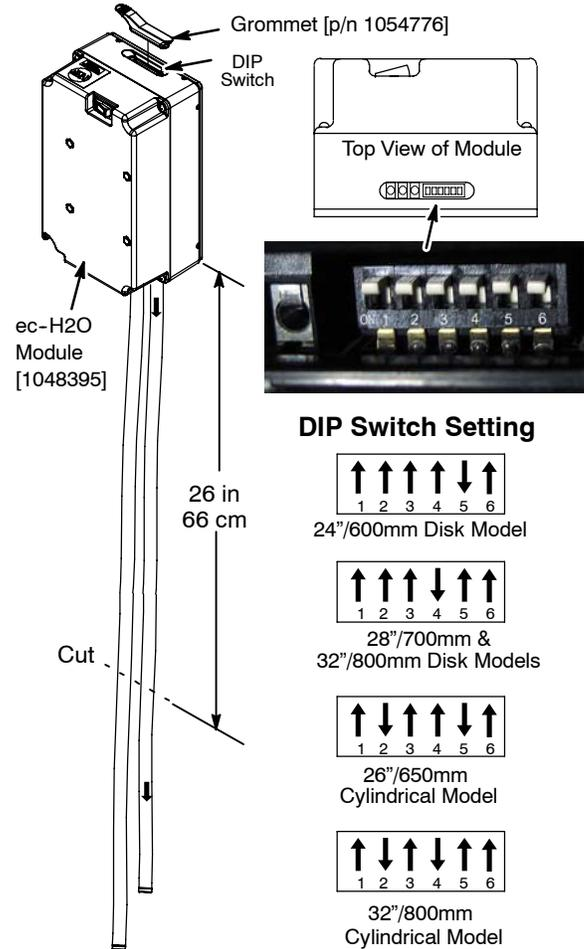

Fig. 28
- Cut the two *ec-H2O* module hoses to the specified length and set the DIP switch settings accordingly (Figure 28). Install the DIP switch grommet [p/n 1054776].